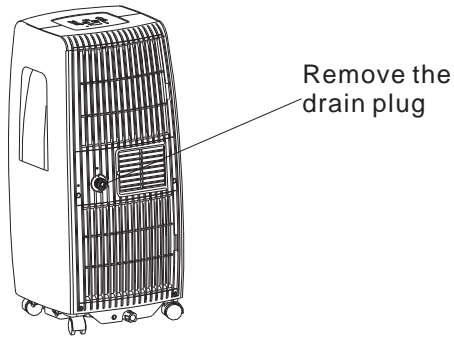

Fig.21
- During dehumidifying modes, remove the drain plug from the back of the unit, install the drain connector(5/8" universal female mender) with 3/4" hose(locally purchased). For the models without drain connector, just attach the drain hose to the hole. Place the open end of the hose directly over the drain area in your basement floor. Please refer to Fig.21 & 22.